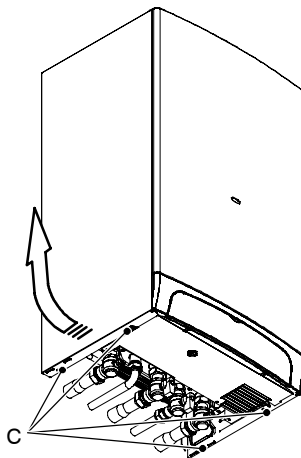

Fig. 9.2
- 3 Loosen the screws C. Bring the bottom of the panels away from the boiler and lift them, freeing them from the top hooks (Fig. 9.2).